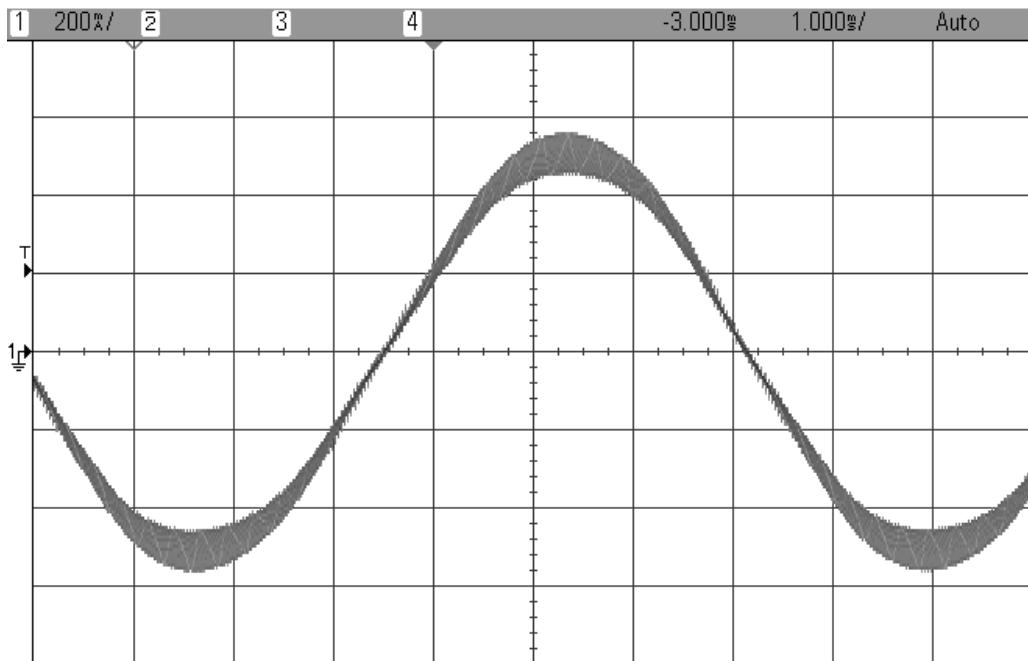
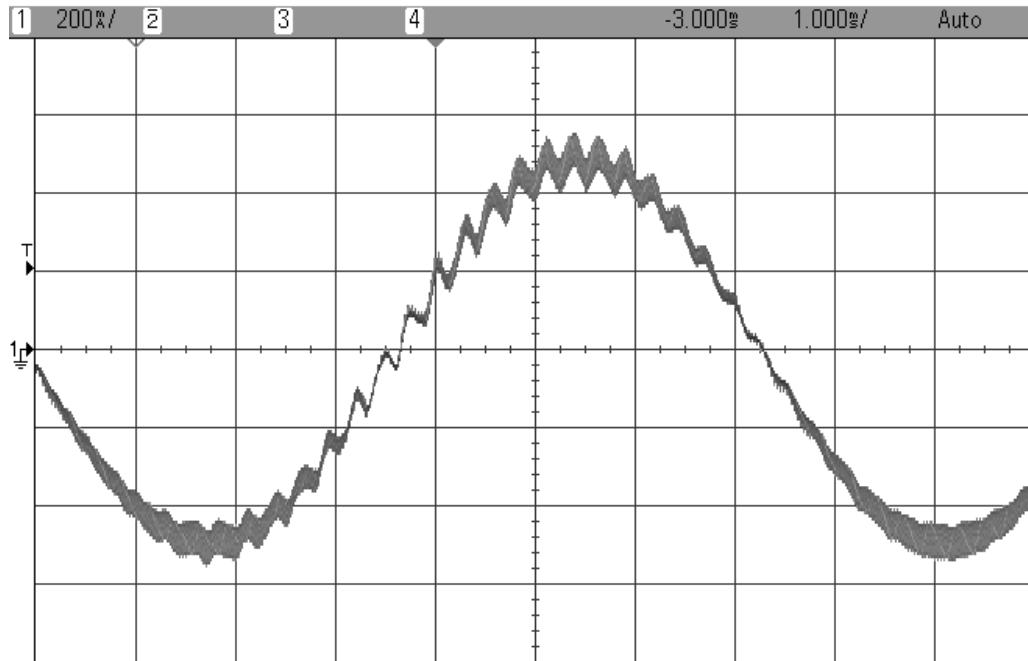

Figure 20: K_p^{series} setting that has been calculated at 1/20 of the bandwidth.
Figure 21: K_p^{series} setting that is too high resulting in the controller becoming unstable.
As the bandwidth gets wider, the sampling delay has more of a negative effect on the phase margin of the controller and causes the control loop to become unstable. Figure 20 is a plot of the motor current waveform with a stable K_p^{series} setting. As the K_p^{series} is increased, the phase margin of the control loop becomes smaller. After a while the control loop is unstable and starts to oscillate as shown in Figure 21. The current controller gain should not be set to this high of a value. When a current loop instability occurs, lower the K_p^{series} gain until the current waveform is like the one in the following figure.
- When the motor makes the high pitch noise, its current waveform looks like that in Figure 21.